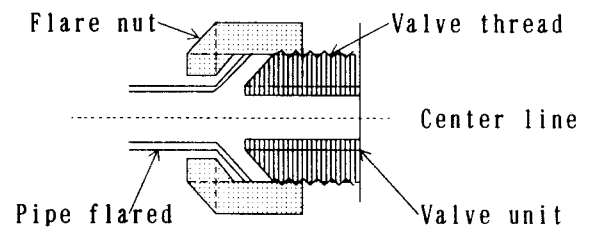

Fig. 1
- ① As shown in Fig. 1, adjust the pipe so that the center line of the pipe sets to that of the valve and then tighten the flare nut by hands. (Tightening the nut with a spanner initially causes the thread to damage and gas leakage.)